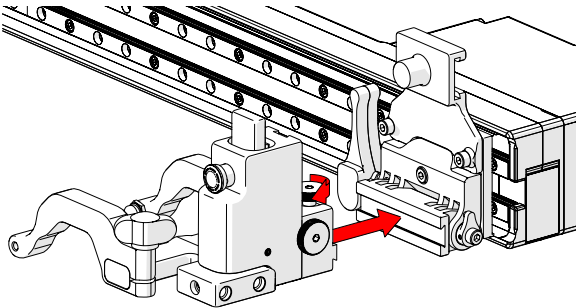

Fig. 109 - Mount probe holder to carrier
1. Loosen the probe holder adjustment knob (*Fig. 109*) and mount the heavy duty vertical probe holder's dovetail jaw to the carrier.